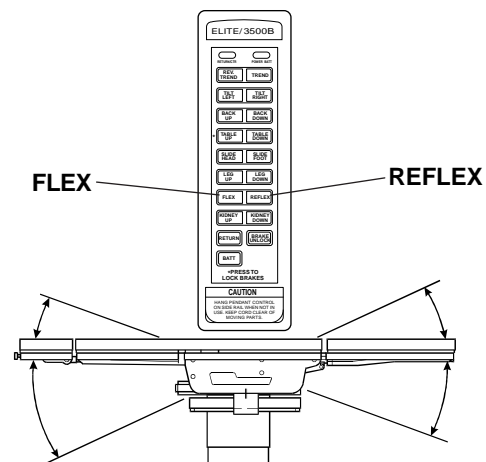

Figure 3-13. Flex/Reflex Positioning
h. Flex Positioning. To place the table top in a flex position from horizontal, press the FLEX button (figure 3-13). To return the table top to a horizontal position or into a reflex position, press the RETURN or REFLEX button.